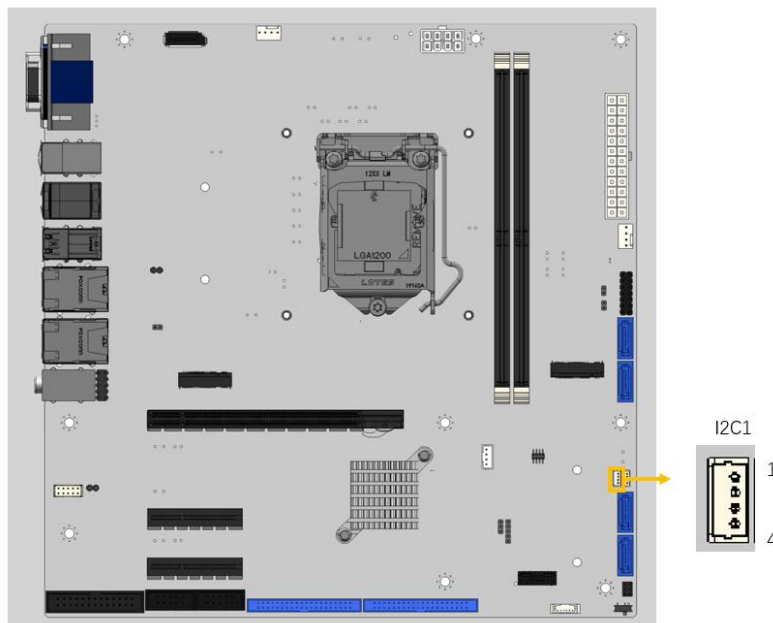

Figure 3-17: I²C Connector Location
- CN Location:** See Figure 3-17